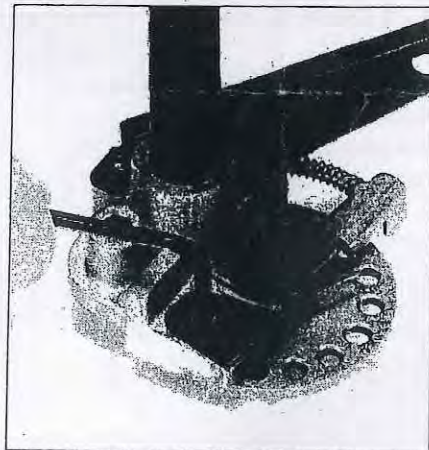

Fig. 10
1. Using a 1/8" Allen wrench, remove the screw that holds the old Station 2 locator to the primer system, Fig. 10. Be sure not to lose the spring.